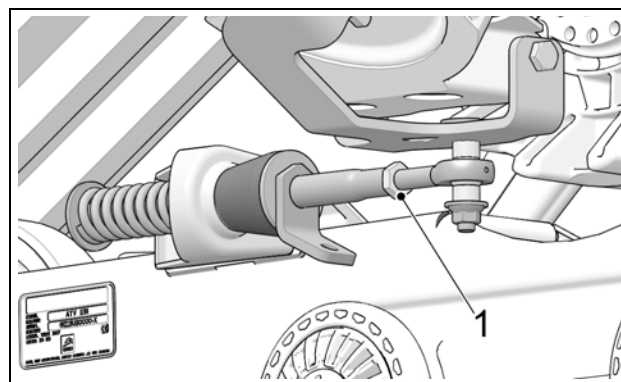

Figure 15
- Re-tighten jam nut (1) to 40 N•m [30 lb-ft] of torque when adjustment is complete. Figure 15.